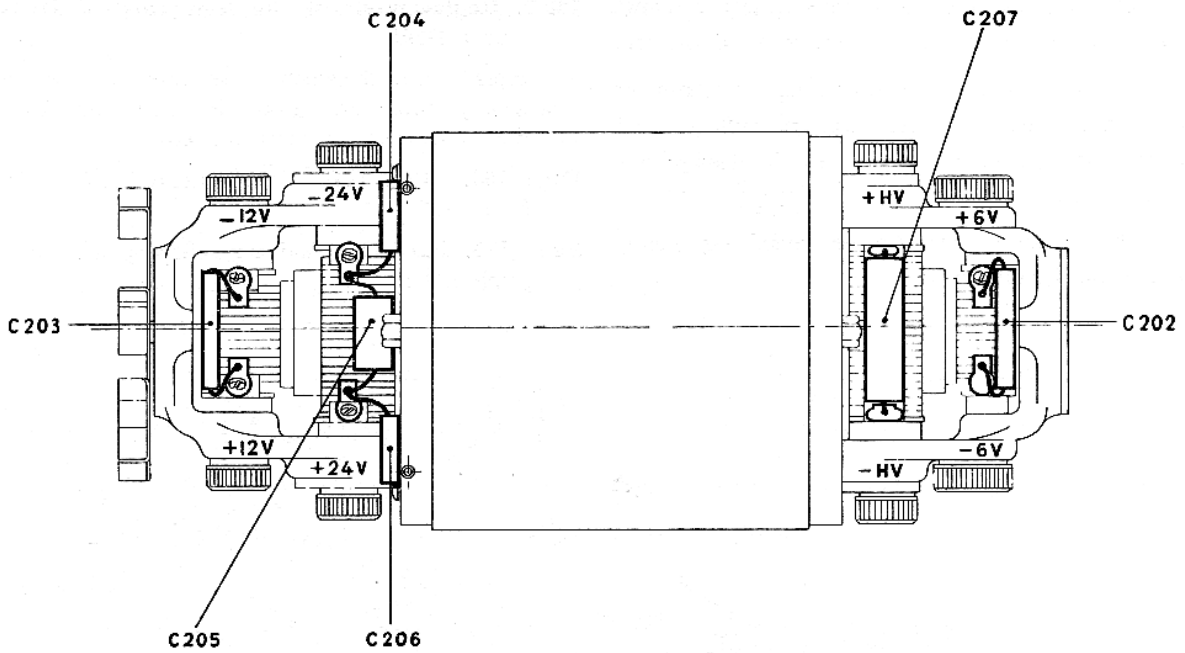

Figure 123.1. Dynamotor D201 manufactured by Radio Energie.
*Note.* The commutator arrangement will vary according to the type of dynamotor used (figs. 123.1 and 123.2.)
**Page 159. Fig. 123.** Insert figures 123.1 and 123.2 after figure 123.